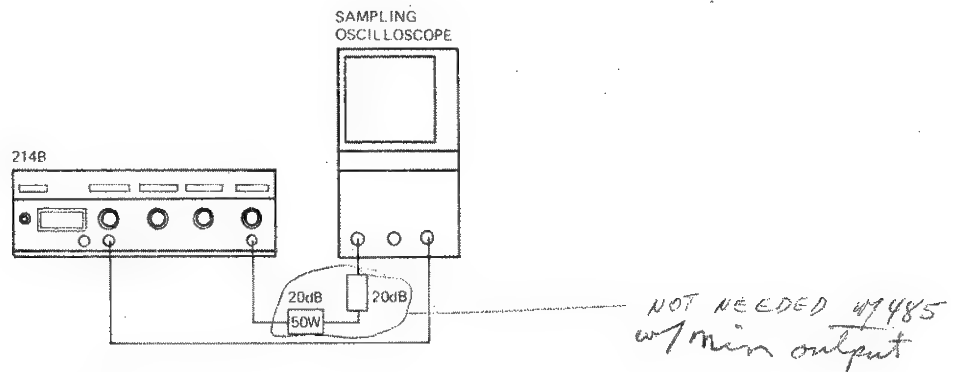

Figure 4-4.
- Connect equipment as shown in Figure 4-4 and set 214B controls as follows: